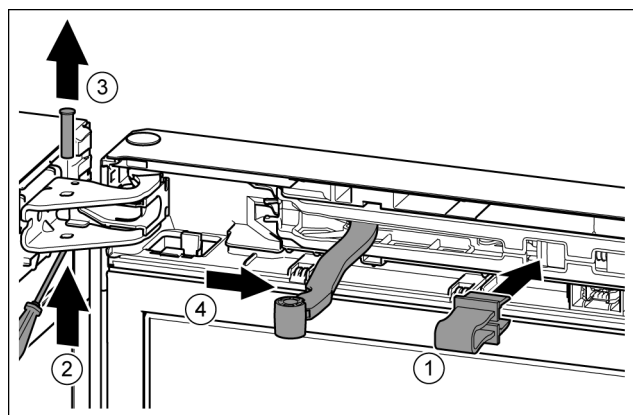

Fig. 10
- Engage the locking device in the opening. *Fig. 10 (1)*
- Unscrew the bolt with a screwdriver. *Fig. 10 (2)*
- Remove the bolt in an upward direction. *Fig. 10 (3)*
- Turn the hinge in the direction of the door. *Fig. 10 (4)*